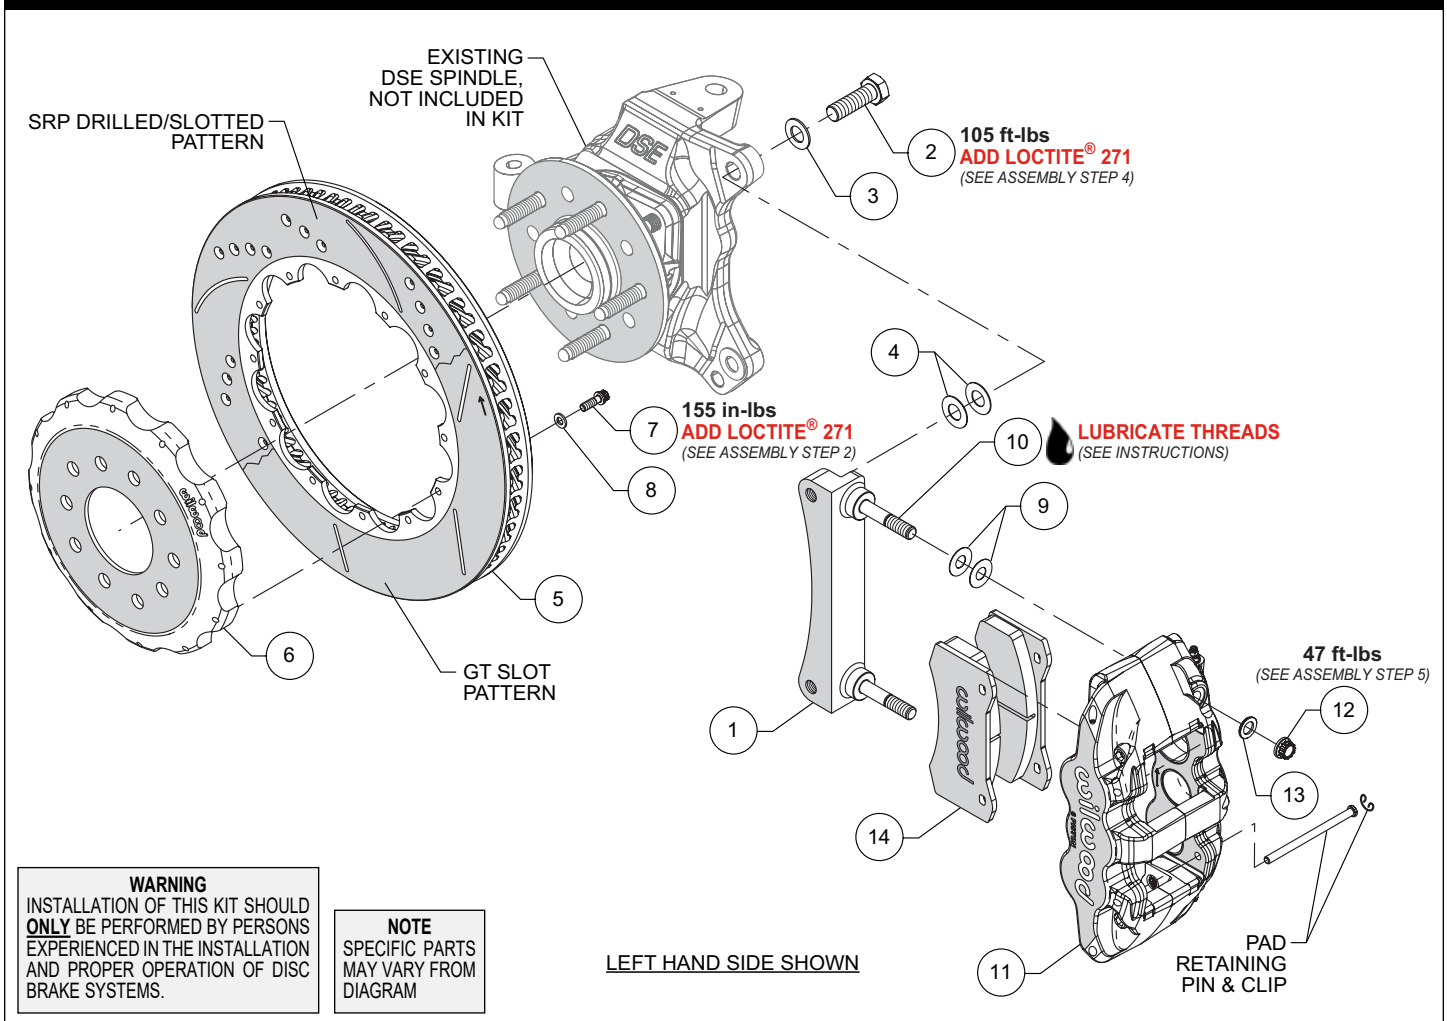
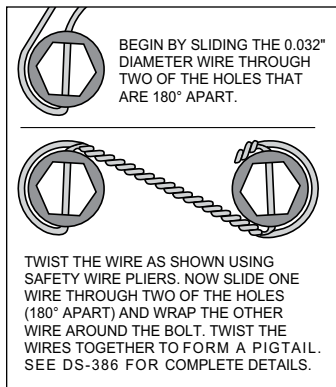

Figure 1. Typical Installation Configuration
Figure 3.
**NOTE:** Numbers in parenthesis refer to the parts list and Figure 1 on the preceding pages.
**STEP 1** The caliper mount bracket (1) should initially be installed with clean, dry threads on the mounting bolts. Orient the bracket as shown in Figure 1 and Photo 1, and install using bolts (2) and washers (3). Initially place two .029 thick shims (4) on each
bolt between the bracket and upright, Figure 1 and Photo 2. Temporarily tighten the mounting bolts. **NOTE:** The bracket must fit squarely against the mount bosses on the upright. Inspect for interference from casting irregularities, machining ridges, burrs, etc. Later, after the caliper alignment has been checked, the mount bolts will be secured using red Loctite® 271.
**STEP 2** Orient the rotor (5) and the hat (6) as shown in Figure 1 and Photo 3. Attach the hat to the rotor using bolts (7) and washers (8). Using an alternating sequence, apply red Loctite® 271 to the threads, and torque to value shown in Figure 1. For an added measure of security, the bolts may be safety wired using standard 0.032 inch diameter stainless steel safety wire as shown in Figure 3. Please refer to Wilwood's data sheet DS-386 (available at [www.wilwood.com/Pdf/DataSheets/ds386.pdf](http://www.wilwood.com/Pdf/DataSheets/ds386.pdf)) for complete safety wire installation instructions.
**STEP 4 NOTE:** This kit contains distinct right and left hand calipers that must be mounted in a specific direction, as described below. Lubricate the caliper mounting studs (10) with lightweight oil. Initially place two .016" thick shims (9) on each stud as shown in Figure 1 and Photo 5. Mount the caliper (11) onto the bracket (1) using lock nuts (12) and washers (13), Figure 1. Ensure that the caliper is mounted so that the largest pistons are at the rotor exit end of the caliper, in relation to the direction of rotor rotation. Temporarily tighten the lock nuts and view the rotor through the top
opening of the caliper. The rotor should be centered in the caliper, Photo 6. If not, adjust by adding or subtracting shims (4) between the bracket and the upright. Always use the same amount of shims on each of the two mounting bolts (2). Once the caliper alignment is correct, remove the bracket mounting bolts (2) one at a time, apply red *Loctite*® 271 to the threads, and torque to value shown in Figure 1.
**STEP 5** Remove the caliper (11), then remove the two pad retaining pins from the caliper by carefully popping out the pin retaining clips and sliding out the pins. Insert the brake pads (14) into the caliper from the bottom with the friction material facing the rotor, Figure 1 and Photo 7. Secure the brake pads in place with the pad retaining pins and clips, Photo 8. Reinstall the caliper onto the caliper mounting bracket and temporarily tighten the lock nuts. Check that the top of the brake pad is flush with the outside diameter of the rotor, Photo 9. If not, adjust by adding or subtracting shims (9) between the caliper and the bracket. After the caliper pad height is set, torque the caliper lock nuts (12) to value shown in Figure 1.